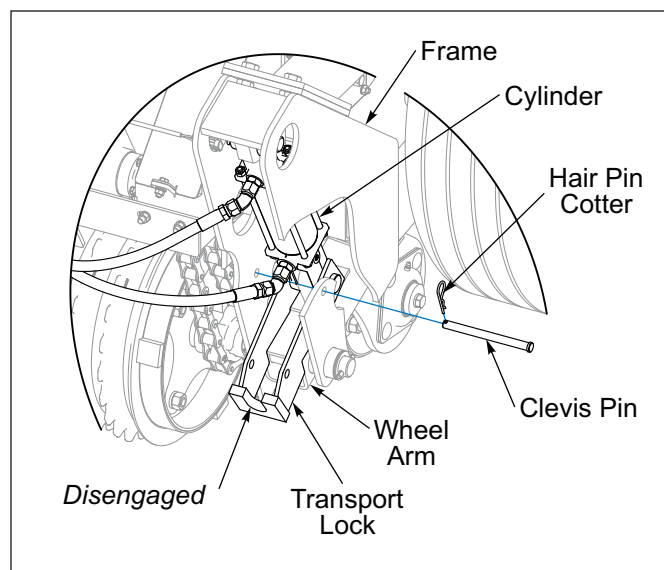

Figure 3-7: Transport Lock Disengaged
5. Disengage each Transport Lock so that the Transport Lock rests on the Wheel Arm. Insert the Clevis Pin in front of the Transport Lock. **See Figure 3-7.**
1. Raise the Seeder fully to extend the Hydraulic Lift Cylinders and rotate the Transport Locks to the stored position. Secure with the Clevis Pins and Hairpin Cotter. **See Figure 3-7.**
3. If the Transport Lock are engaged, raise the Seeder and disengage the Transport Locks. **See Figure 3-7.**